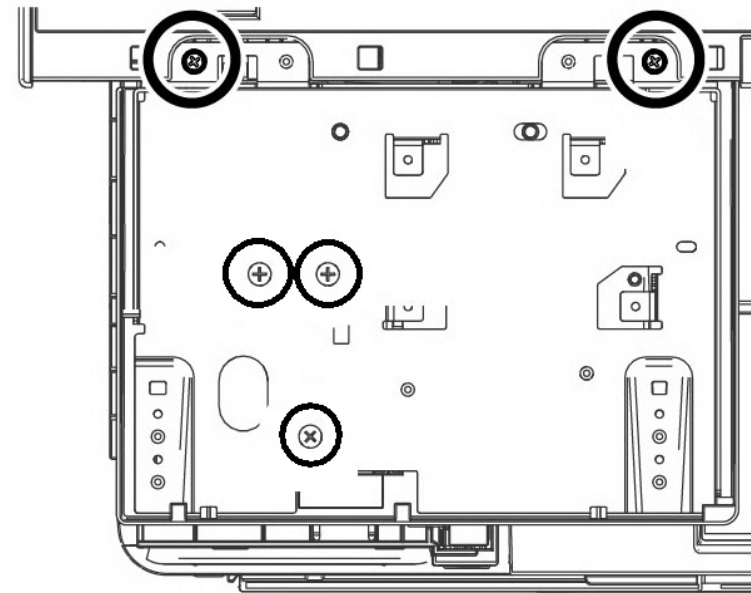

Figure 1 UI plate screw locations
2. Refer to **Figure 1**, remove 2 screws connecting the UI plate to the scanner and three screws in the UI plate.
NOTE: When engaging the release lever on the FFC connector, slightly press open the release lever no more than 15 degrees. Hold the lever while gently removing the FFC from the connector as shown in the inset of *Figure 1*, Disconnect the harnesses and two FFCs.